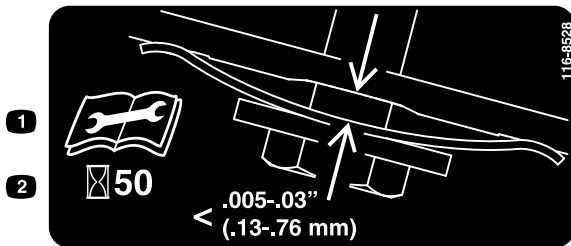

Figure 29
- Hold a feeler gauge set between 0.005 and 0.03 inches (0.13 and 0.76 mm) against the wall and slide it down behind the belt tension spring; refer to Figure 29.